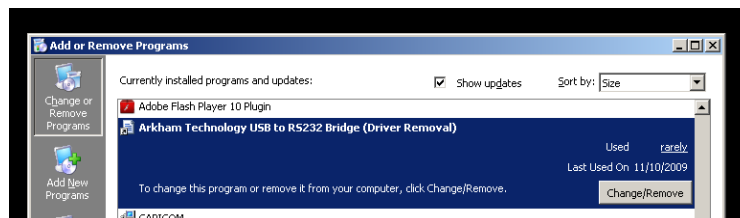

Figure 2-4: Add or Remove Programs
The *Add or Remove Programs* window will then appear as shown in Figure 2-4.
- c) Select the *Arkham Technology USB to RS232 Bridge (Driver Removal)* entry as shown in Figure 2-4.